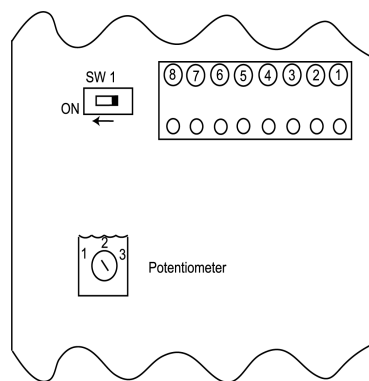

Figure 2: RPB-200 Connections
1. Switch SW1 on the RPB-200 to the "ON" position (see Figure 2 on page 2).
1. To increase the receiver range distance, turn the potentiometer clockwise (see Figure 2 on page 2).
2. To decrease the receiver range distance, turn the potentiometer counter-clockwise (see Figure 2 on page 2).